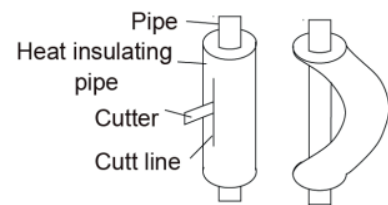

Fig. 10
- (2). Do not bend the pipes in an angle more than 90°.
- (4). When bending the pipe, do not bend it as is. The pipe will be collapsed. In this case, cut the heat insulating pipe with a sharp cutter as shown in Fig. 10, and bend it after exposing the pipe. After bending the pipe as you want, be sure to put the heat insulating pipe back on the pipe, and secure it with tape.